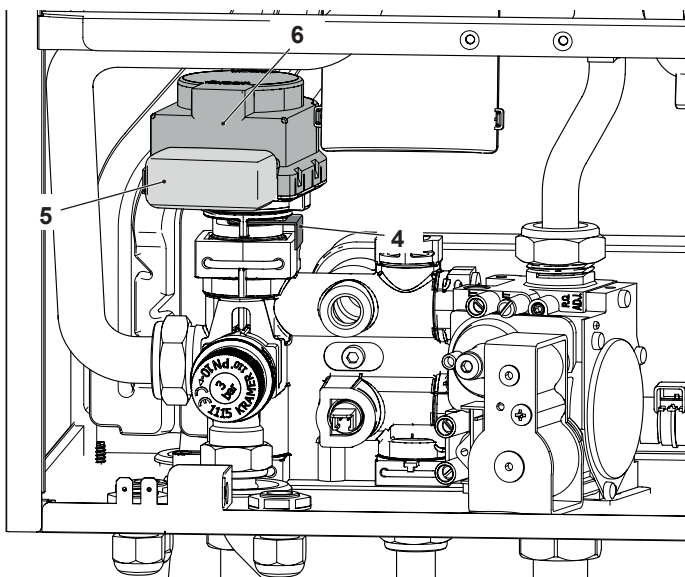

Figure 8.4
- 2 Disconnect the connectors "4" (Figure 8.4).